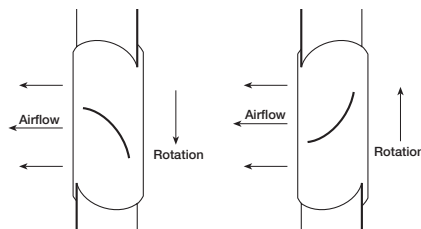
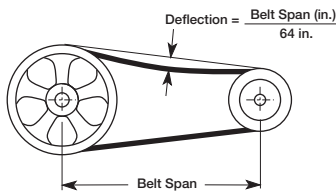

Figure 7 — Rotation Decal
Figure 12 — Belt Tension
12. Rotation direction of the propeller should be checked by momentarily turning the unit on. Rotation should be in the same direction as the rotation decal affixed to the unit or as shown in Figure 7. For 3-phase installations, fan rotation can be reversed by interchanging any two of the three electrical leads. For single phase installations follow the wiring diagram located on the motor or see Figure 12.
2. Start the ventilator up and shut it off immediately to check rotation of the propeller with directional arrow in the motor compartment. Refer back to Figure 7.